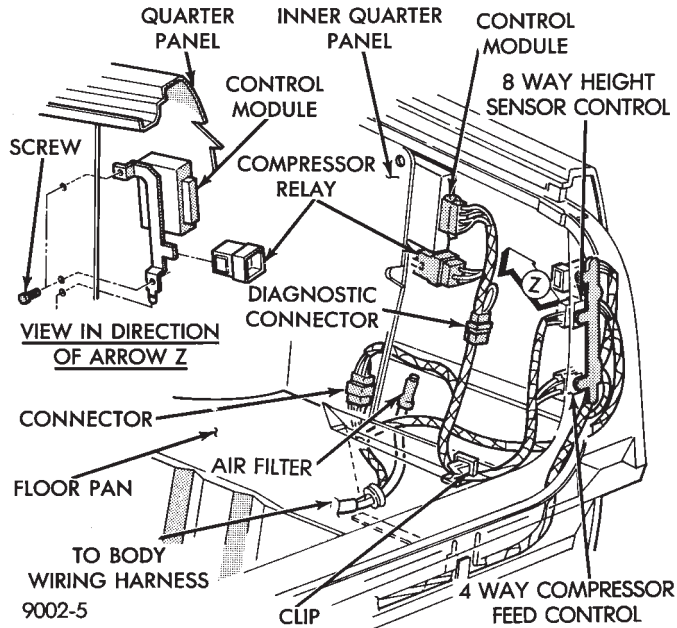

Fig. 7 Control Module and Relay Wiring
- (1) Disconnect negative battery cable.
- (2) Remove right side trunk trim panel.
- (3) Remove electrical connectors from control module and relay (Fig. 7).
- (4) Remove control module mounting screws and remove assembly.
- (1) Install relay on the control module mounting bracket (if required).
- (2) Place control module in mounting position.
- (3) Install mounting screws and tighten to 2-3 N•m (19-29 in. lbs.).
- (4) Install control module and relay wiring connectors (Fig. 7).
- (5) Install right side trunk trim panel.
- (6) Connect negative battery cable.